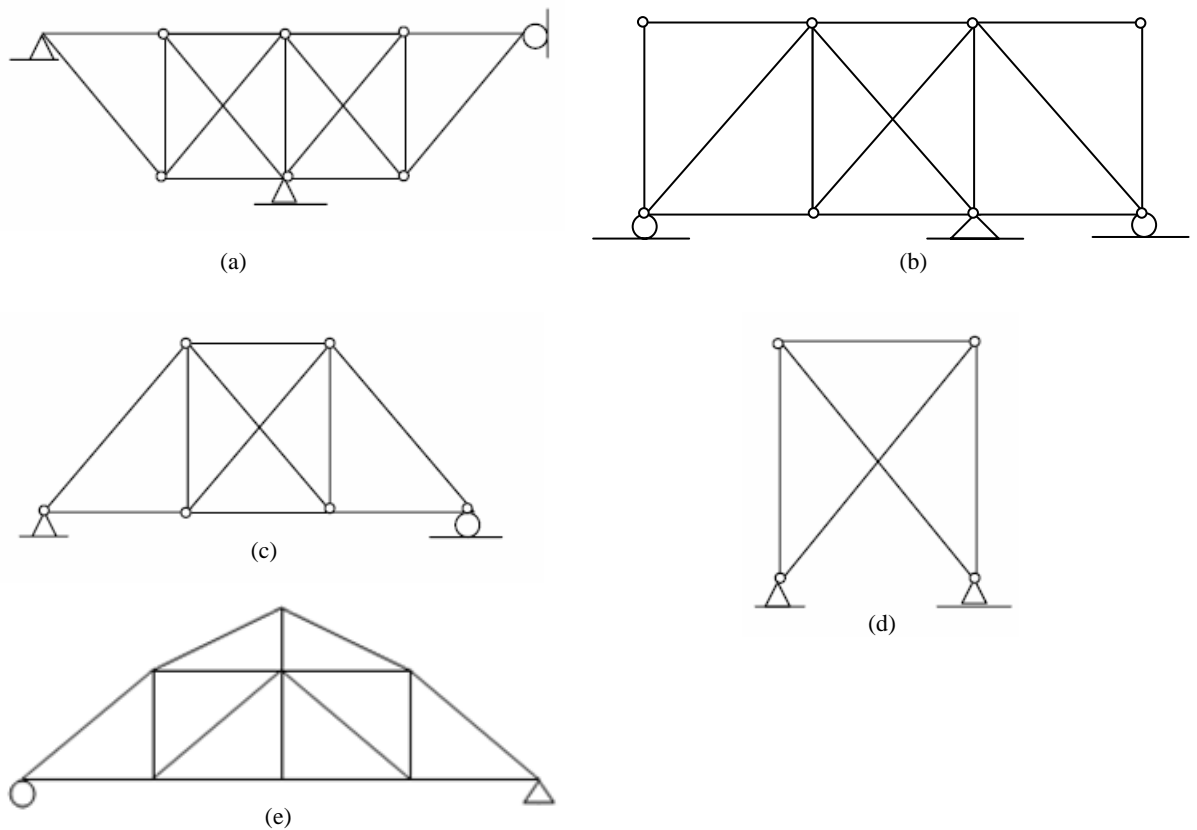

Figure 2
- 2 Figure 2(a)–(e) shows the pinned connected truss, determine;